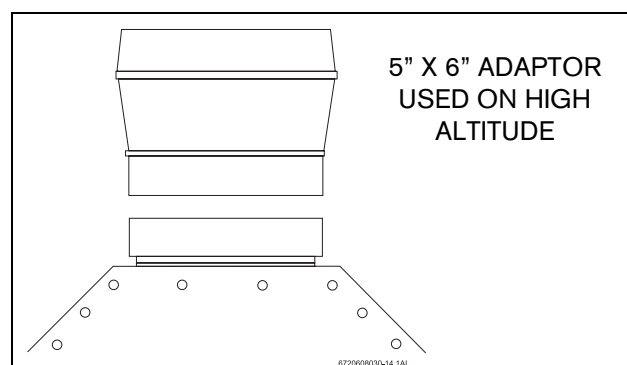

Fig. 10 Vent Adaptor for High Altitude Installations
- ▶ A 5 inch diameter gas vent constructed of double wall Type B gas vent is required. A 6 inch vent is required in elevations greater than 2000 feet, see Fig. 10. Under no circumstances should the vent pipe be reduced in size.
Masonry chimneys shall be built and installed in accordance with NFPS 211 or local codes. A minimum 5" diameter gas vent pipe (metal double wall Type B), or an approved clay flue liner or a listed chimney lining system must be used when venting into a naturally drafting, internal masonry chimney. 6 inch is required in elevations greater than 2000 feet, see Fig. 10. Local codes may require the use of both gas vent and an approved lining system when venting into a masonry chimney. The Commonwealth of Massachusetts requires the use of a listed liner. Lining systems include approved clay flue lining, a listed chimney lining system or other approved material that will resist corrosion, erosion, softening, or cracking from exhaust flue gases at temperatures up to 1800 degrees F. The lining system must be listed for use with naturally drafting, draft hood equipped gas appliances. Follow local codes and refer to NFGC 54 and NFPA 58.